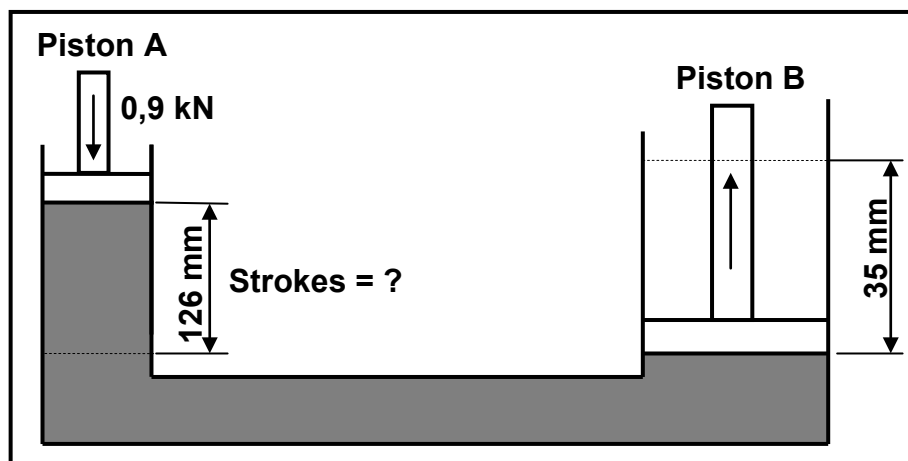

FIGURE 6.2
- 6.4 A diagrammatic representation of a hydraulic press is shown in FIGURE 6.2 below. An applied force of 0,9 kN is needed to complete one stroke of 126 mm. The diameter of piston A is 40 mm and the diameter of piston B is 240 mm.